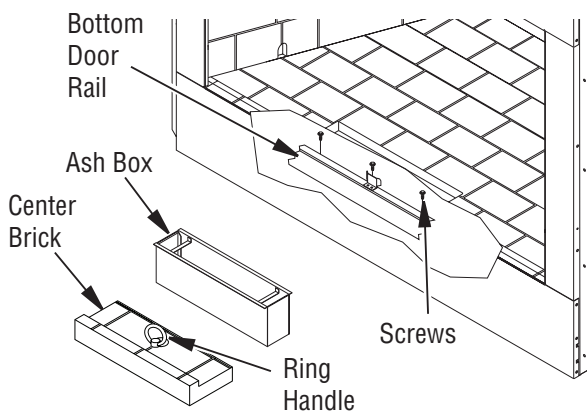

Figure 27 - Installing Bottom Door Frame
3. Remove center ash refractory by pulling ring handle (see Figure 27).
5. Remove three screws located at front of firebox (see Figure 27).